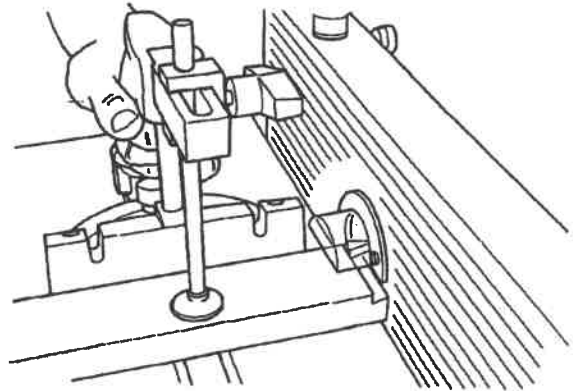

Fig. E-9
11. Install the guard (13) on the slide. Place the miter gauge in the miter channel. See Fig. E-9.
14. Remove the guard (13) from the slide. Lower the bit TWICE the number of turns calculated in Step 10.